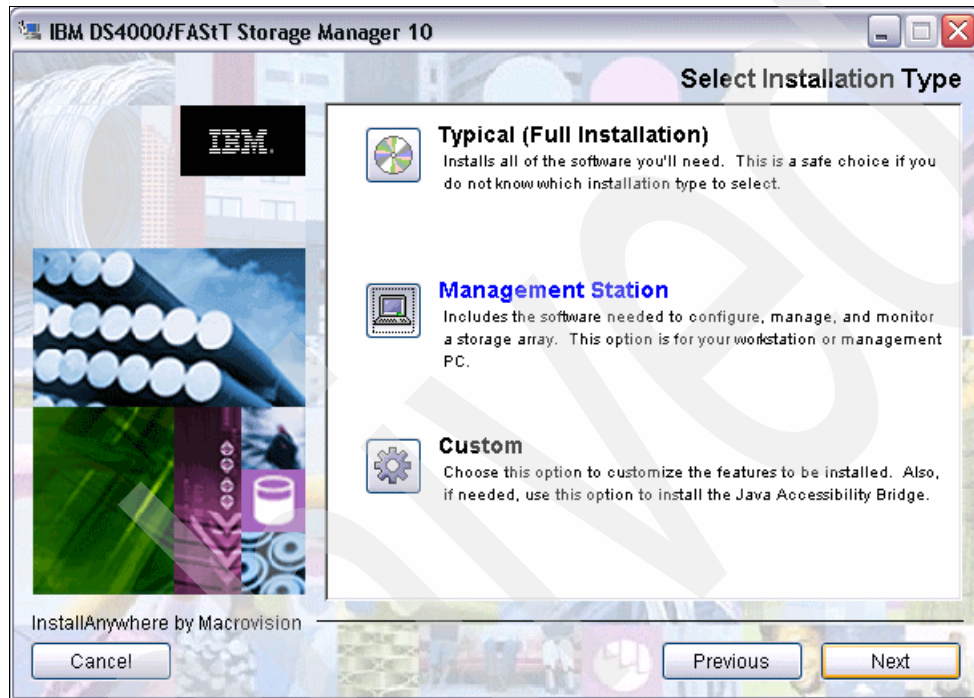

Figure 7-6 SM Select Installation Type dialog
7. Select **Management Station** on the Select Installation Type dialog and select **Next** to proceed, as shown in Figure 7-6.